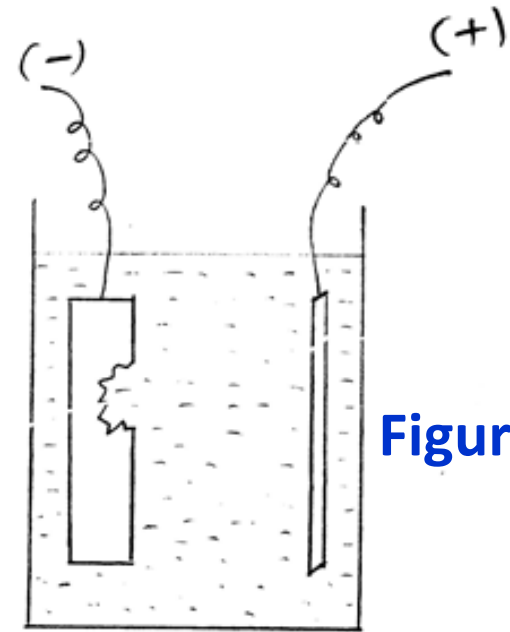

Figure 5.18
- Electroforming is used to build out worn parts of machines by depositing metal on the worn part, while other parts are insulated (**Figure 5.18**).